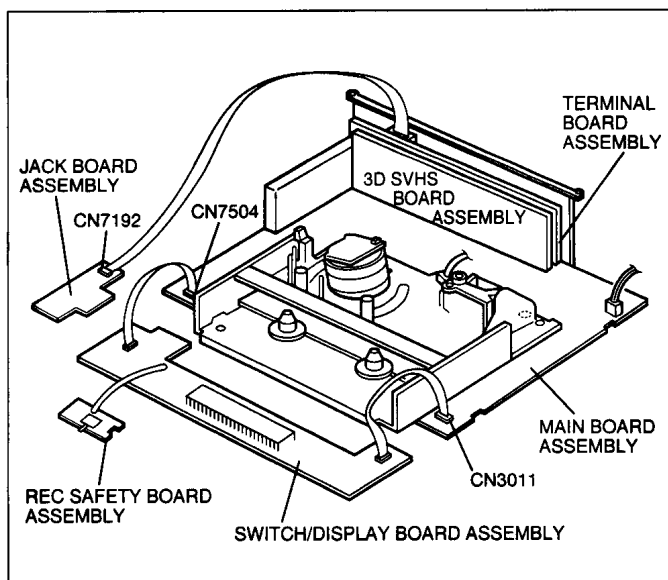

Fig. 1-4-3
- (8) Place the Switch/Display board assembly, REC safety board assembly and Jack board assembly on the front side of the Mechanism and Main board assemblies which was removed at the step (6), then connect the flat wires into CN3011 and CN7504 of the Main board assembly and CN7192 of the Jack board assembly. (Refer to Fig. 1-4-3.)
#### 1.4.3 Cassette loading and ejection methods in the "SERVICE POSITION"(See Fig. 1-4-3).
- (1) Insert a cassette halfway in the Cassette holder assembly.
- (2) Set the switch on the REC safety board assembly to ON (by pressing the switch).
- (3) As soon as the cassette starts to be loaded, set the switch on the REC safety board assembly to OFF (by releasing the switch).
- (4) Now the desired operation (recording, playback, fast forward, rewind, etc.) is possible in this status (the status shown in Fig. 1-4-3).
- When performing diagnostics of the tape playback or recording condition in the "SERVICE POSITION", enter the desired mode before turning the set upside down, and do not change the mode during diagnostics while the set is placed upside down. If you want to switch the mode, turn the set to the normal position (the status shown in Fig. 1-4-3).
- (5) The switch on the REC safety board assembly does not have to be operated when ejecting a tape. But be sure to turn the set to the normal position before ejecting the tape.